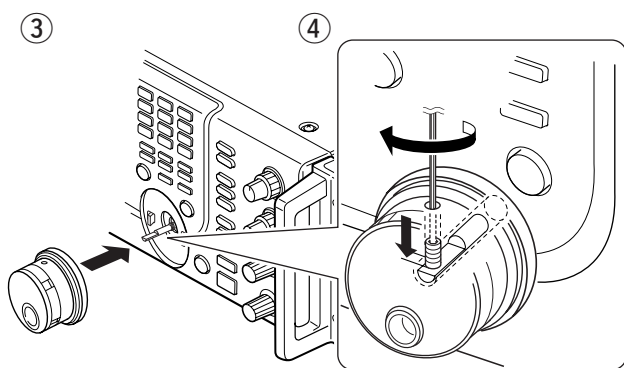

Fig. 3
- ③ Attach the main dial as illustrated (Fig. 3).
- ④ Tighten the screw using supplied hexagonal wrench as illustrated (Fig. 3).